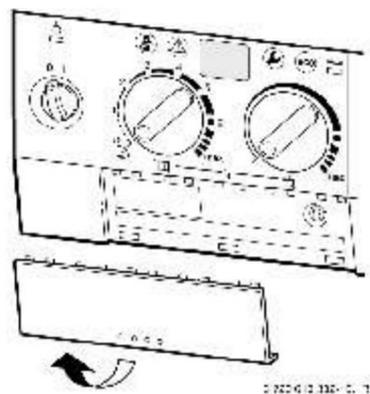

Fig. 14
• The control panel opens, page 17, figures 14 and 15.